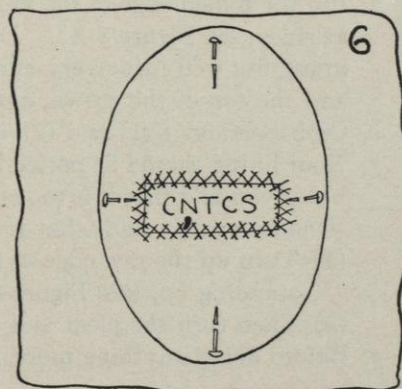

FIG. 6.
- (3) Either slipstitch cut ends of name tip in place, and just tack the other edges of name tips in the selvages, or catchstitch the entire name tip to the crown tip, with colored embroidery twist to match the embroidery on the tip (see Figure 6 in Job 21, page 88 and Figure 4 B).
- c. If you have a large embroidered crown tip, it is ready to be used, after you have completed Sections 2 c (1) and d (1), page 294.
- a. Be sure that the side band is the length that you wrote down after reading Section 2 a (1), page 294.
- b. Put pins in the tip to mark the front, back, and sides (see Figure 6). Remember the tip is to be read from the front (see Section 1 c, page 293).
- (3) Either slipstitch the cut ends of the name tip in place, and tack the other edges of the name tip in the selvages, or catch stitch the entire name tip to the crown tip, with colored embroidery twist to match the embroidery on the tip (see Figure 6 of Job 21, page 88).